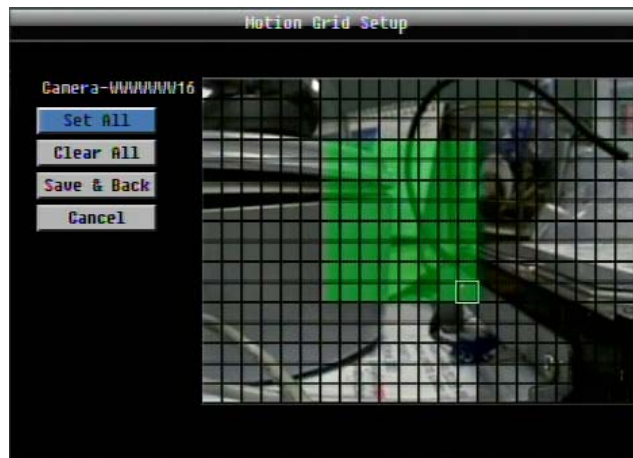

Figure 4-5 Camera Menu – Motion Grid Setting
**Edit Motion Grid**: Press this button to edit the motion grid (See Figure 4-5 Camera Menu – Motion Grid Setting).